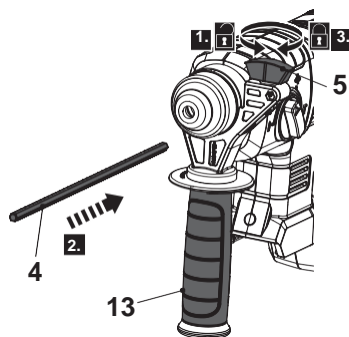

Fig. 2
1. Turn the wing nut (5) anticlockwise until the depth stop (4) can be inserted (Fig. 2, step 1).
2. Insert the depth stop (4) through the hole of the auxiliary handle (13) (Fig. 2, step 2).
3. Turn the wing nut (5) clockwise to firmly clamp the depth stop (4). (Fig. 2, step 3).